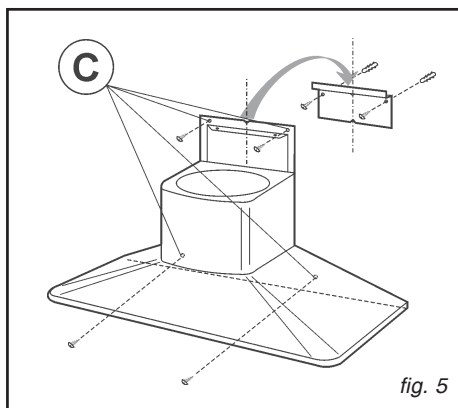
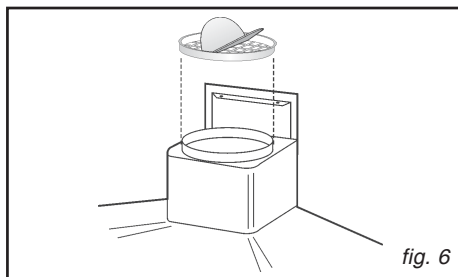

fig. 5
fig. 6
- Hang the hood on the bracket (fig. 5). Adjust the horizontal position moving the hood to the right or left so that it is aligned with the wall units.
- When adjustment has been completed, without removing the hood, mark the other 4 holes to be drilled (C) in the wall. Remove the hood and drill the holes marked (8 mm diameter). Then use the 4 screw anchors and the 4 screws provided for final fixing.
- Install the flange in the device air outlet and press slightly (fig.6). In the case of installation with air evacuation to the outside, fitting the non-return valve prevents the wind from entering and the air from returning. Caution: Before fastening the air exhaust pipe to the motor, check that the non-return valve on the air vent can move freely.